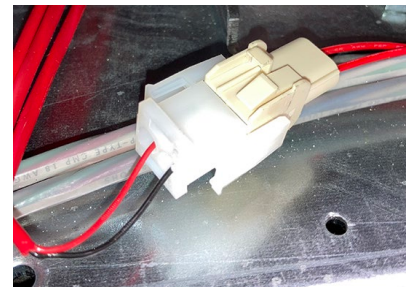

Figure 32
30. Attach the 2-pin pan switch connector from step 26 to the pan switch in the rear of the fryer (see Figure 32).